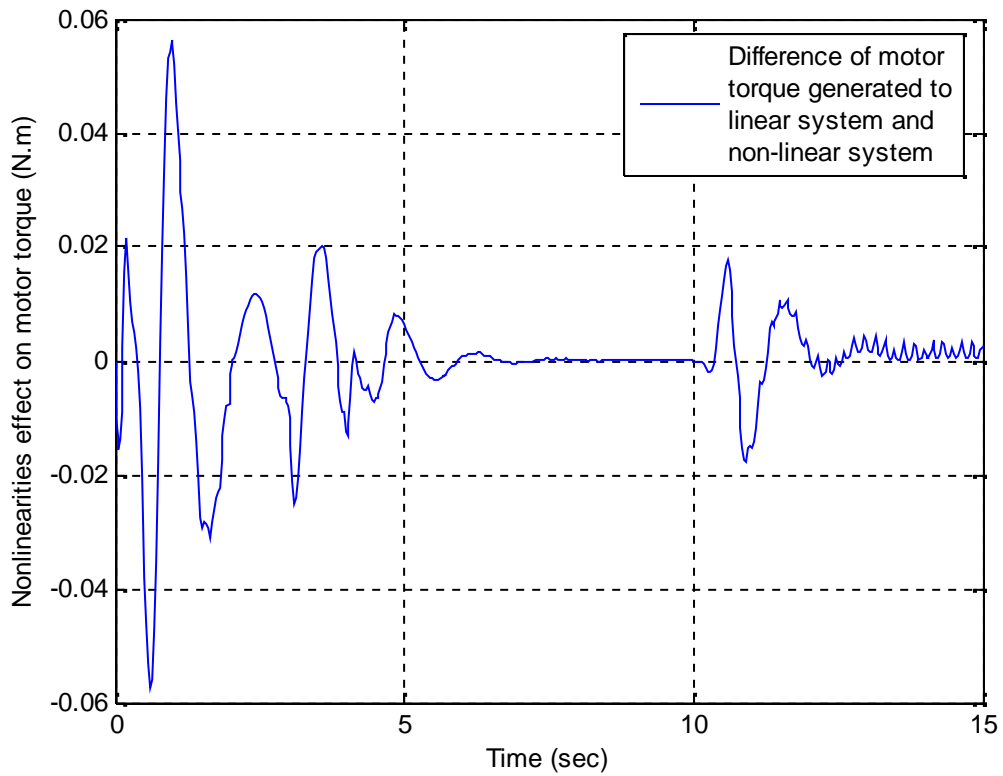

Figure 4.17 Nonlinearities effect on motor torque with time
- Very small differences between linear and nonlinear model behavior (Figures 4.17, 4.18, 4.19).